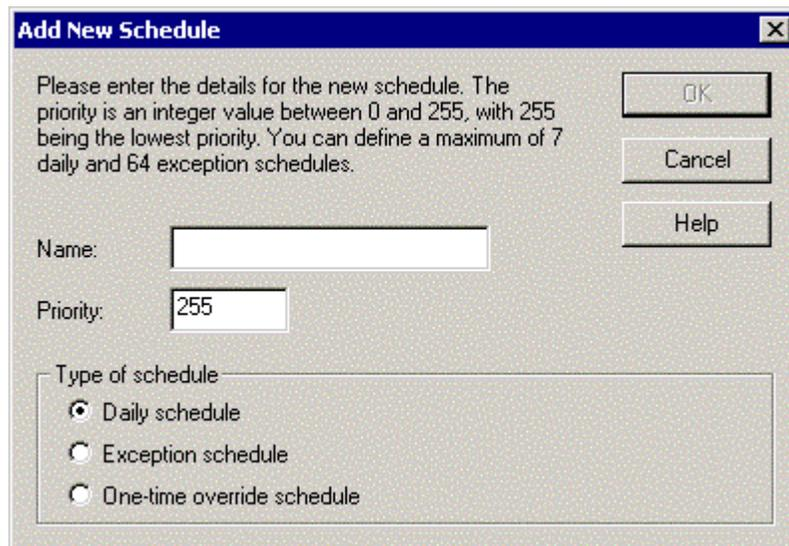

Figure 5.18 Add New Schedule Dialog
11. Click **Add** below the **Schedules** list to open the **New Schedule** dialog, as shown in Figure 5.18.